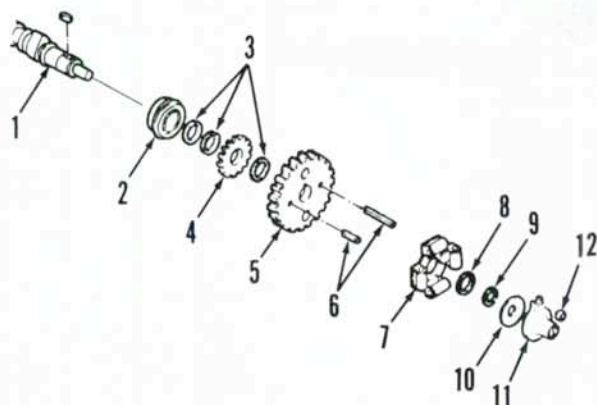
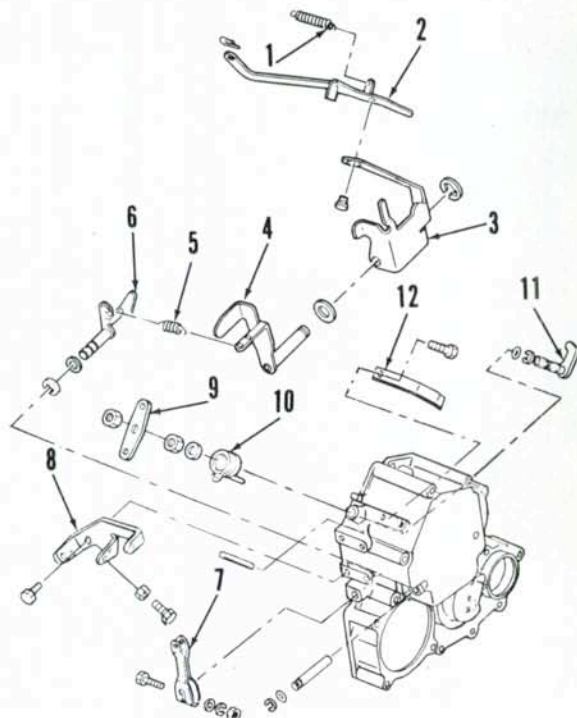

Fig. 135—Exploded view of governor flyweight and associated parts used on 1210 and 1310 models.
Fig. 136—Exploded view of governor linkage used on 1210 and 1310 models.
71. The governor flyweights are located on the forward end of engine camshaft. The governor control linkage is located inside the timing gear case. To service governor linkage or flyweights, refer to paragraph 34 for removal of timing gear case. Refer to Fig. 135 for an exploded view of flyweight and associated parts and to Fig. 136 for an exploded view of governor linkage.